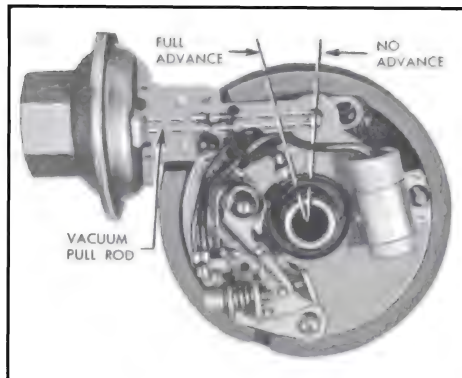

Figure 10-36—Vacuum Advance Mechanism
3. Vacuum Advance is governed by manifold vacuum. The contact point set is mounted on a breaker plate which is located below the centrifugal advance mechanism and uses the outer diameter of the upper shaft bushing for its bearing surface. The movable breaker plate is held in position on the upper shaft bushing by a retainer. The vacuum unit is mounted on the distributor base and under the movable breaker plate so that the breaker plate can be rotated around the distributor cam by a link from the vacuum unit. See Figure 10-36.